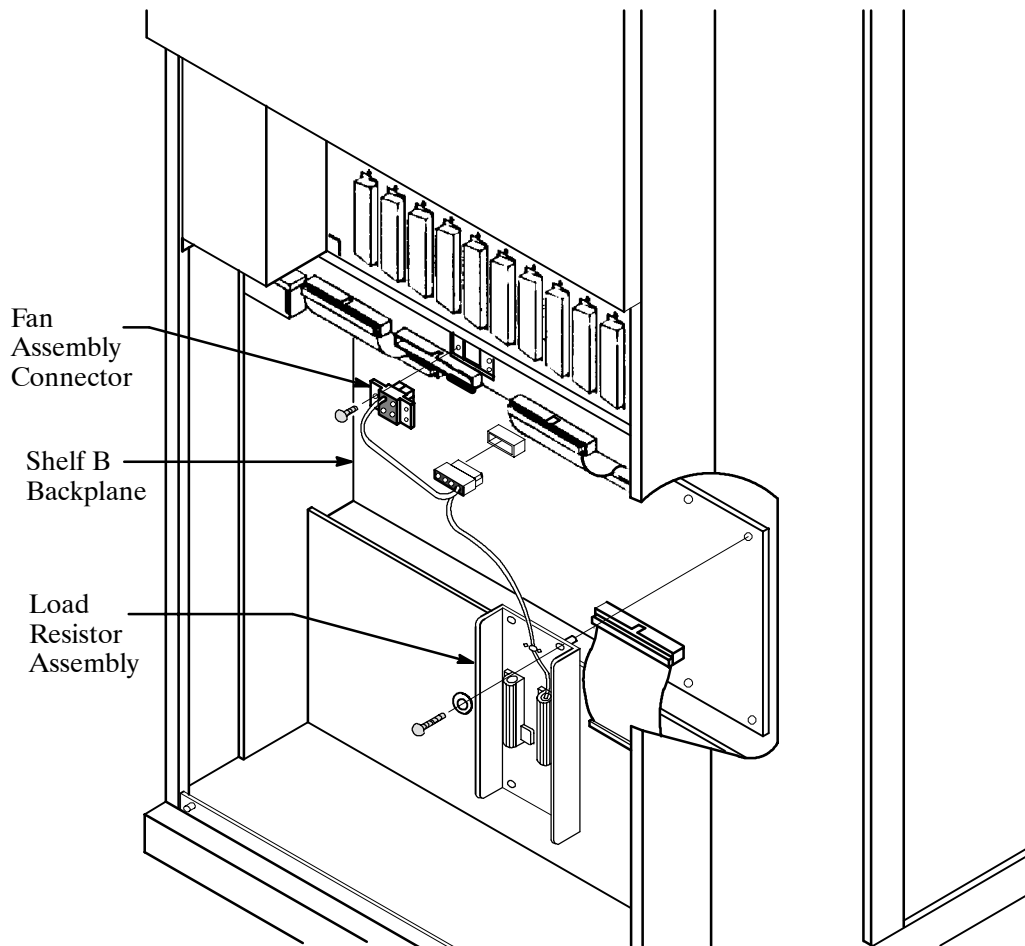

Figure 9-30 Cutaway View of the Load Resistor Assembly
9. If the shelf B disk drive backplane is being removed, and the message server is equipped with a load resistor assembly, remove the four screws and washers that secure the load resistor assembly to the message server. Refer to Figure 9-30 to verify whether a load resistor assembly is present.
2. If the shelf B backplane is being installed in a message server with a load resistor assembly, secure the load resistor assembly to the cabinet with four screws and washers, as shown in Figure 9-30. Do not tighten the screws.
7. Locate the load resistor assembly on the shelf B backplane (refer to Figure 9-30). Note that the harness attached to the load resistor assembly is also attached to the shelf B disk drive backplane and to the fan assembly.
3. Secure the load resistor assembly sheet metal to the chassis with the four screws and washers, as shown in Figure 9-30.